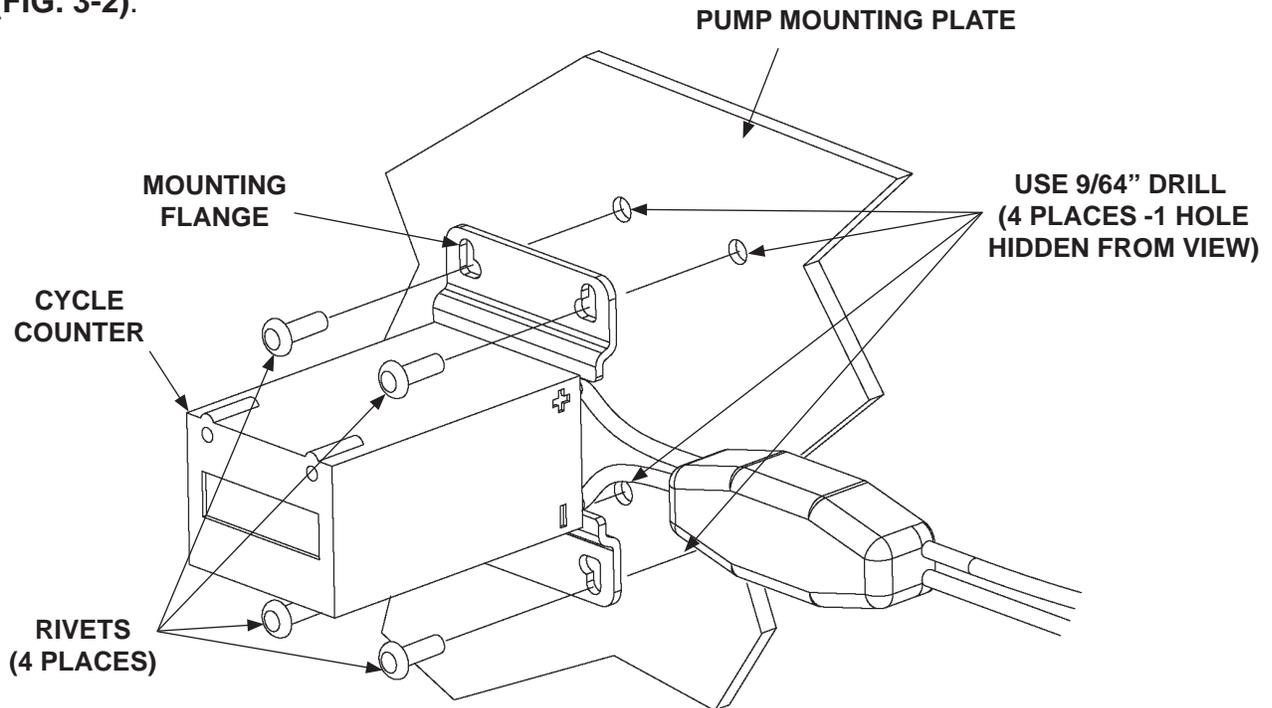

FIG. 3-2
4. Rivet the cycle counter assembly to the pump mounting plate (FIG. 3-2).